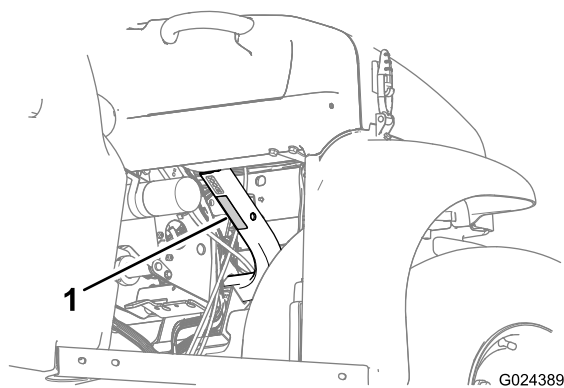

Figure 22
- Observe the weight capacity of the machine and limit the weight of the load that you carry in the cargo box as described in Specifications \(page 19\) and on the gross vehicle weight tag of the machine (Figure 22).